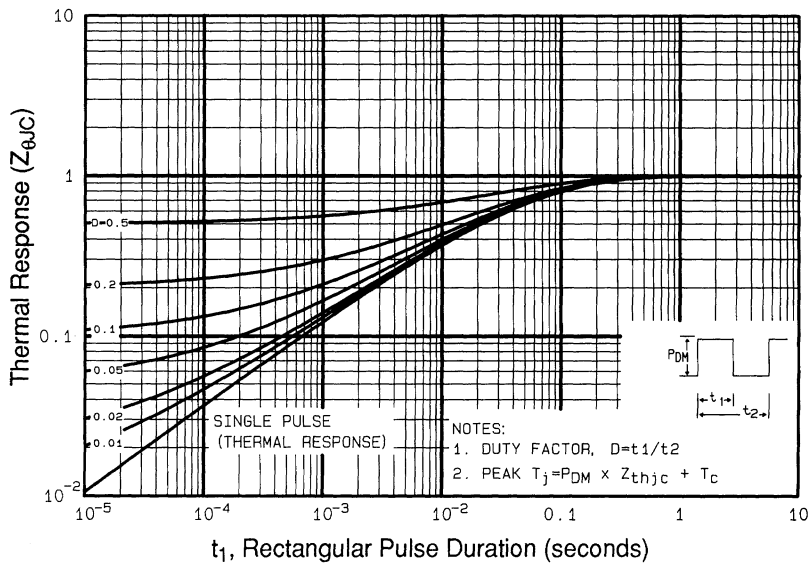

Fig 11. Maximum Effective Transient Thermal Impedance, Junction-to-Case
① Repetitive rating; pulse width limited by max. junction temperature. (See fig. 11)
② $V_{DD} = 50V$, starting $T_J = 25^\circ\text{C}$, $L = 27mH$
$R_G = 25\Omega$, $I_{AS} = 6.2A$. (See Figure 11)